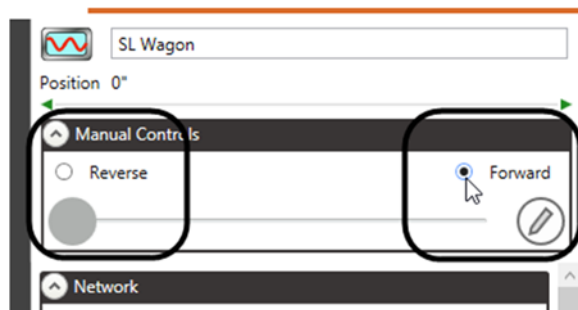

Figure 117
4. Select a direction, either **Forward** or **Reverse** (Figure 117).